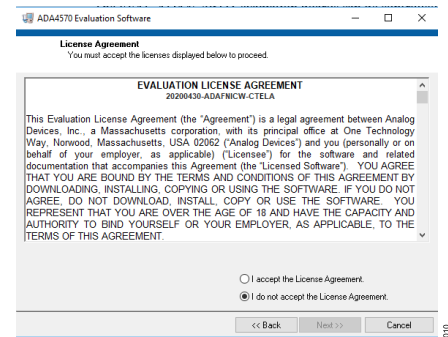

Figure 10. License Agreement Window
5. Installing the **EVAL-ADA4570SDZ Evaluation Software** requires users to accept the license agreement shown in Figure 10. Read the agreement before clicking **Next** to proceed.